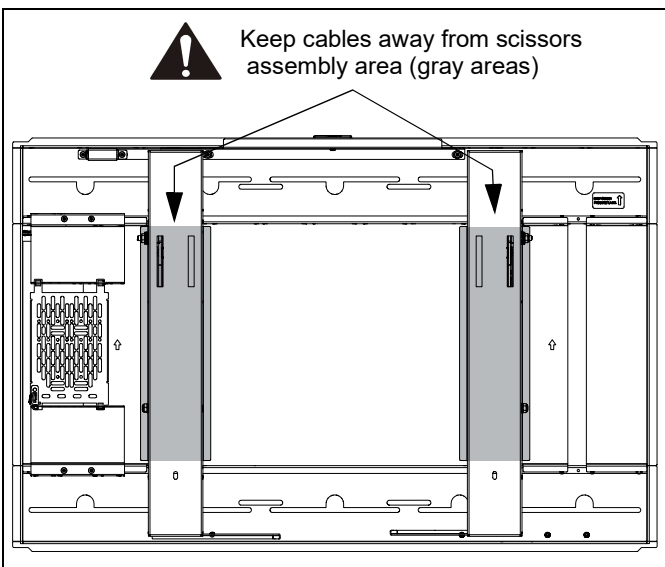

Figure 19
1. Cables may be placed in the rear frame areas **outside** of the scissors assembly (gray areas). (See Figure 19)
- IMPORTANT !** : Do NOT place cables where they may move between the scissors assembly. Damage to cables may occur. (See Figure 19)